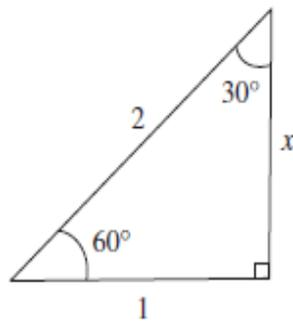

Figure Q1d: Triangle.
- d) From **Figure Q1d**, without using a calculator, evaluate i) $\sin(30^\circ)$, ii) $\cos(30^\circ)$, iii) $\cos(60^\circ)$, iv) $\tan(60^\circ)$ and v) $\operatorname{cosec}(30^\circ)$